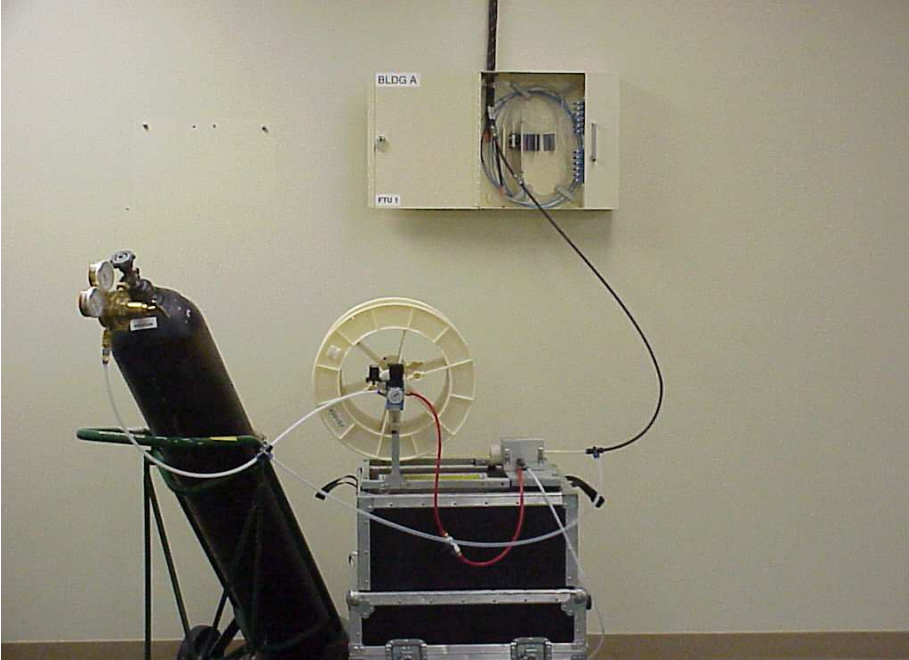

Figure 8
8.2 Refer to Sumitomo Recommended Procedures SRP SP-F04-001 and SRP SP-F04-002 to set up the Blowing Head Equipment and install replacement fiber bundle. **See Fig. 8.**